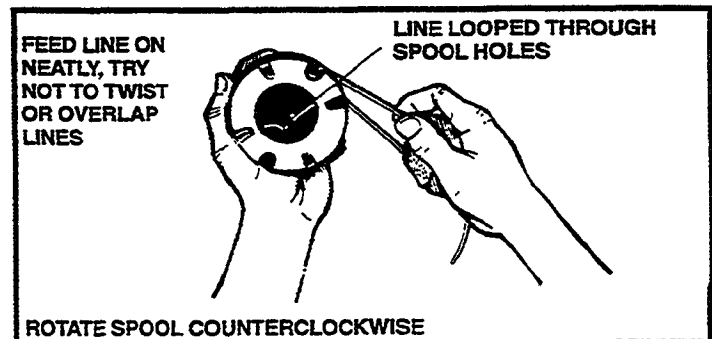

Figure 18
- Loop line through holes in spool and make certain that both lines are even (Figure 18).
- Hold spool as shown (Figure 18) and feed line on neatly by rotating the spool counterclockwise.